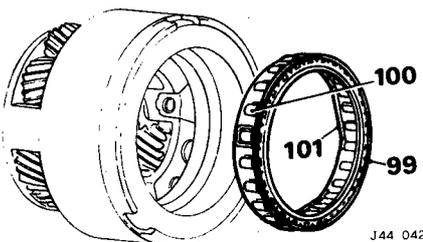

Fig. 41
- 99. Withdraw the clutch from the planet carrier (Fig. 41).
- 100. Check the sprag faces for flat spots indicating wear (Fig. 41).
- 101. Check the sprag cage for flat spots indicating wear (Fig. 41).